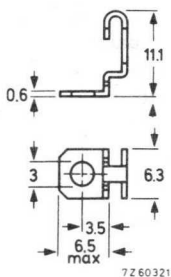

Fig. 4a. Metal mounting bracket
- metal bracket for panel mounting, catalogue number 4332 026 00760, Fig. 4a